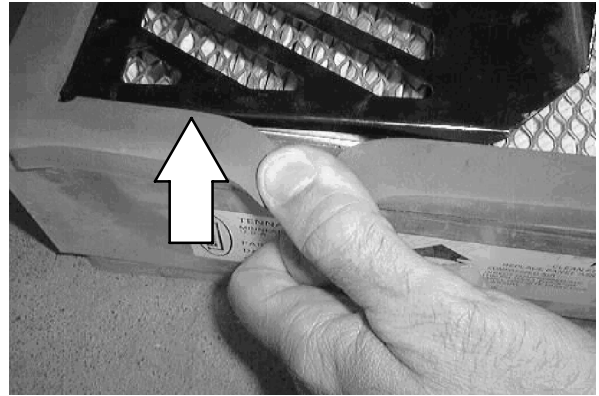

FIG. 6
7. Place the edges of the shaker firmly between the filter and the filter seal. Use cable ties to secure the VCS system filter shaker to the filter. Refer to Fig. 6.